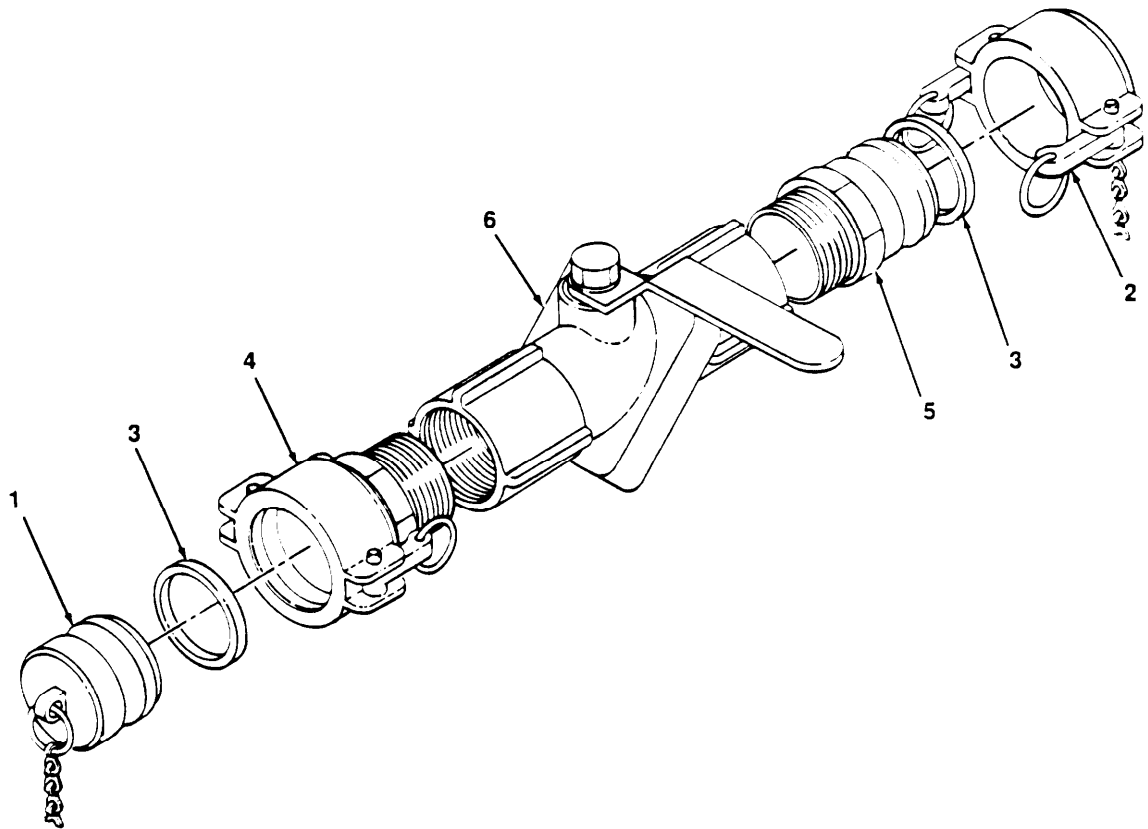

Figure 4-3. Quick-Acting Valve Repair.
- b. Repair. (figure 4-3) Repair a serviceable valve by replacing any defective part or by replacing gaskets as follows:
- (1) Remove quick disconnect plug (1) and dust cap (2).
- (2) Remove gasket (3) from coupling half (4) and discard.
- (3) Remove coupling half (4) and coupling half (5) from ball valve (6) by unscrewing. Remove old sealing compound from coupling halves and ball valve.
- (4) Install coupling halves (4 and 5) in ball valve (6), using sealing compound (MIL-S-7916) on threads.
- (5) Install new gasket (3) in coupling half (4).